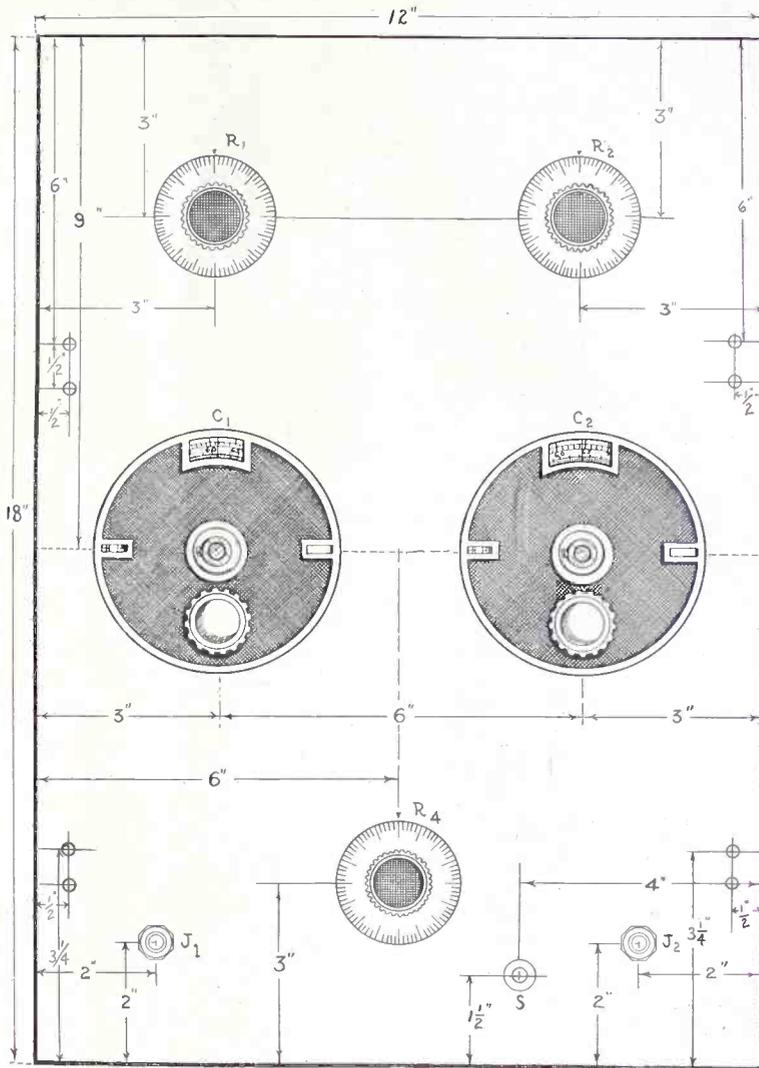

FIG. 2, showing the panel view of the receiver.
The picture shown in Fig. 2, is the panel view. Bill explained:
**A FIXED** condenser, C, used somewhat similarly to a grid blocking condenser. The above is a direct coupled circuit, tubes 1 and 2 being coupled by condenser, with the aid of resistors, for audio amplification. For such audio coupling C should be as large as possible. The large condensers are expensive, so .25 mfd. is a frequent compromise, yet 4.0 mfd. would be much better. The reasons are given in the text. (Fig. 2)
condenser used in a direct coupled amplifier, illustrated by C in Fig. 2. This is used to keep the high positive voltage applied to the plate from reaching the grid of the succeeding grid. This use is a necessary evil. Essentially this condenser is a series coupling condenser, and what was previously said concerning this applies here also. If the direct coupled amplifier operates at radio frequency, either high or intermediate, the value of the condenser may be comparatively small, from .001 to .01 mfd., depending on the frequency of the current to be amplified. If the amplifier operates at audio frequency and the circuit is intended to amplify all audible frequencies to the same degree, the value of the condenser should be as large as possible. Only space and reasonable cost should be the limitations. If the condenser is small, low frequencies will be suppressed owing to the high impedance of the condenser at these frequencies, and distortion will result. Condensers smaller than one microfarad should not be considered if the object is to construct a quality amplifier.